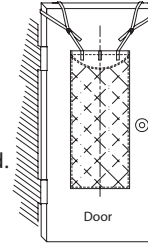

Figure 5
4. Loop each strap around each corner on the door (Figure 5).